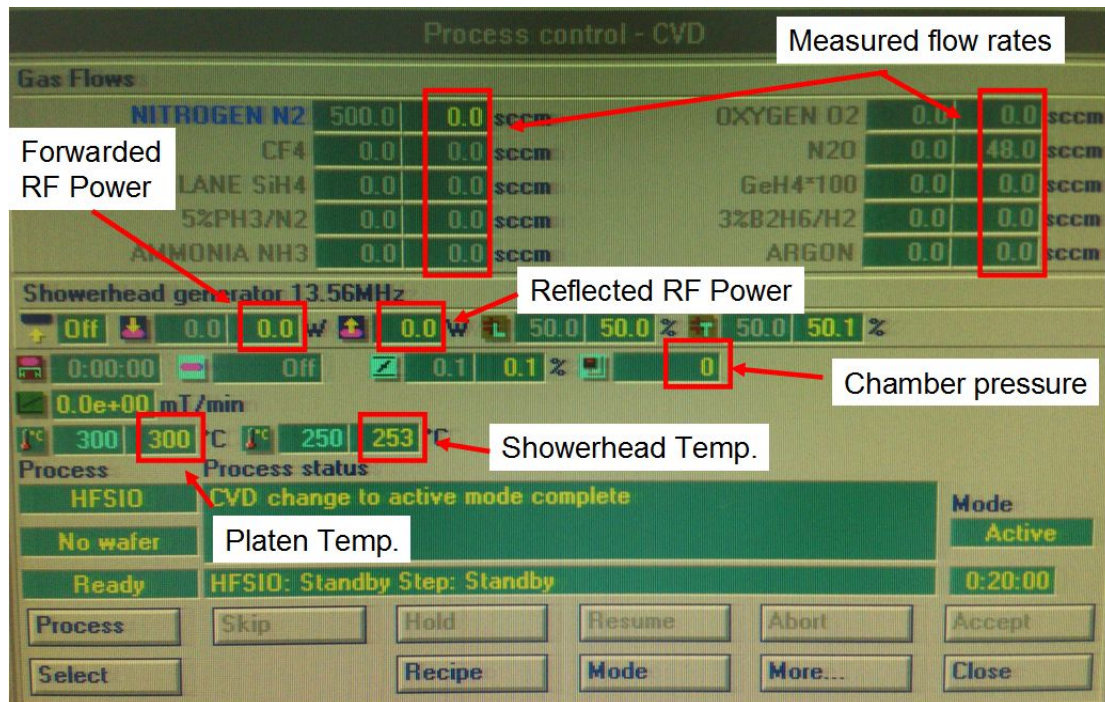

Fig. 1d: “Process control – CVD” dialog in system idle state. The highlighted regions show measured values of some system parameters.
- (1) From the top menu bar, select Control > A CVD process. The “Process control – CVD” dialog is displayed. Check that **Mode** is **Active**. If the **Mode** is **Inactive** or **Unknown**, contact NFF staff.
- (2) Check also that there is no process running by looking at that the yellow data field just above the **Process** button is showing **Ready**. The PECVD system is now in the idle state (see Fig. 1d). In the idle state: